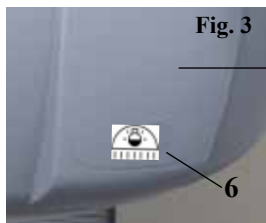

Fig. 4
- Wrench for front screen removal (8 fig.4)